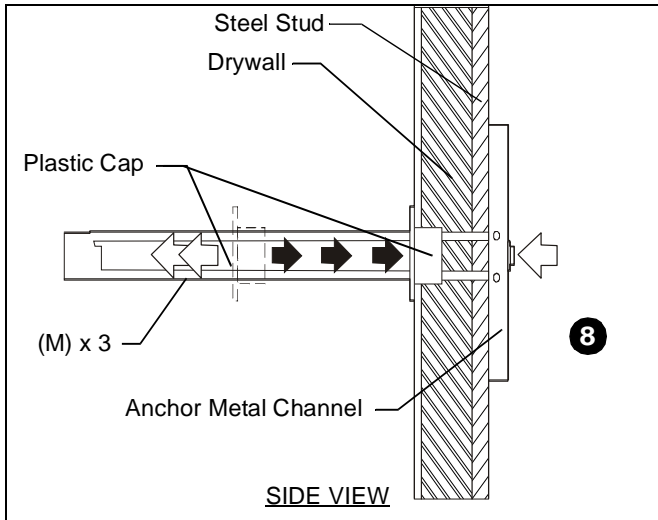

Figure 7
7. Holding plastic straps on anchor (M), pull anchor away from wall until channel rests flush behind wall making sure anchor channel is positioned vertically on stud. (See Figure 7)
8. Slide plastic cap on anchor (M) towards wall until flange of cap is flush with wall. (See Figure 7)